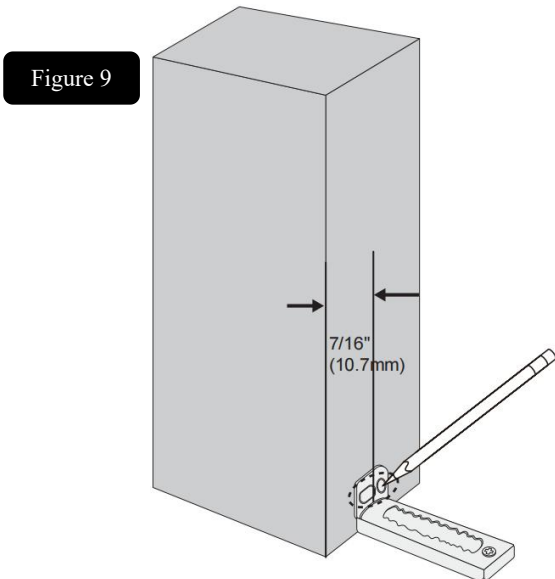

Figure 9
- **Step 1:** Place jamb bracket right under top pivot bracket, tight to the floor. The distance from jamb bracket to the edge of the jamb should be 7/16" (10.7mm) as shown (Figure 9). Use a pencil to mark the 2 places where holes are to be drilled as shown (Figure 9).